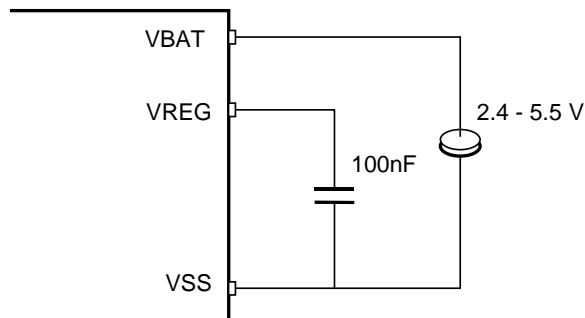

Figure 2-5. Supply configuration for ROM circuit operation using the internal regulator.
2. Using the internal voltage regulator (see Figure 2-5).